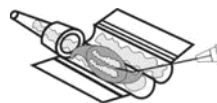

Fig.04
4. Applying a few drops of BS solution on the surface of the lens, as in Fig.04,will help to keep the lens in hydrated condition.As the lens is Hydrophilic in nature, this is helpful.